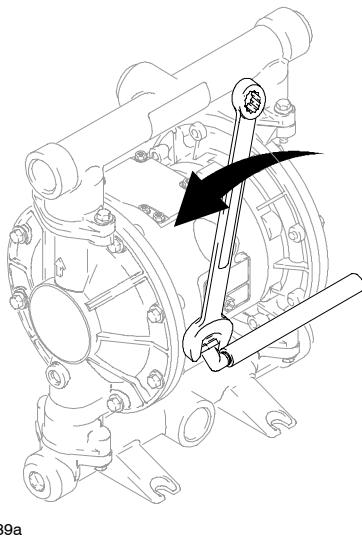

Fig. 11
4. Disconnect exhaust tube. Fig. 11.